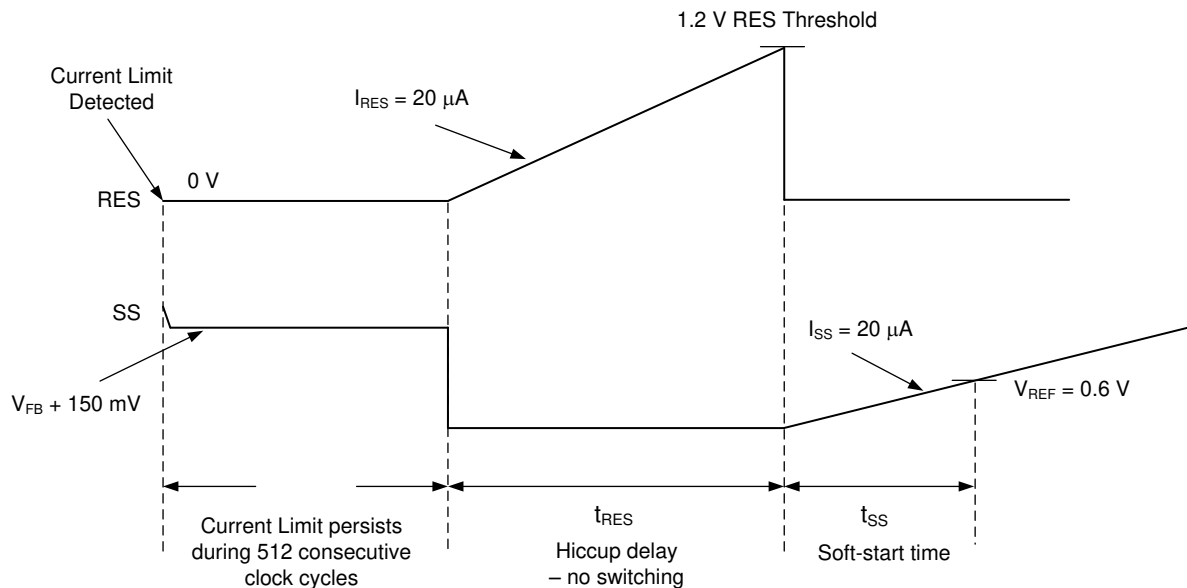

图 33. Hiccup Mode Timing Diagram
The LM5143-Q1 includes an optional hiccup mode protection function that is enabled when a capacitor is connected to the RES pin. In normal operation, the RES capacitor is discharged to ground. If 512 cycles of cycle-by-cycle current limiting occurs, SS is pulled low and the HO and LO outputs are disabled (see 图 33). A 20- μA current source begins to charge the RES capacitor. When the RES voltage increases to 1.2 V, RES is pulled low and the SS capacitor begins to charge. The 512-cycle hiccup counter is reset if four consecutive switching cycles occur without exceeding the current limit threshold. Separate hiccup counters are provided for each channel, but the RES pin is shared by both channels. One channel can be in hiccup protection while the other operates normally. In the event that both channels are in an overcurrent condition triggering hiccup protection, the last hiccup counter to expire pulls RES low and starts the RES capacitor charging cycle. Both channels then restart together when $V_{RES} = 1.2 \text{ V}$. If RES is connected to VDDA at power up, the hiccup function is disabled for both channels.
- t_{RES} is the specified hiccup delay as shown in 图 33